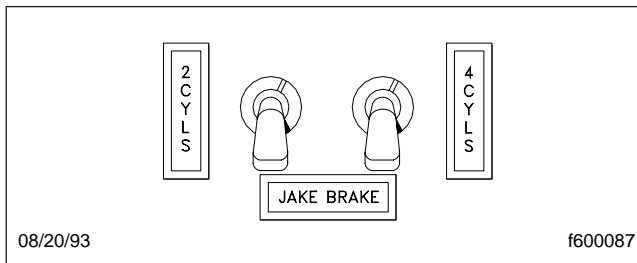

Fig. 7.10, Engine Brake Switches
- dual dash switches (Fig. 7.10), which are on/off toggle switches;